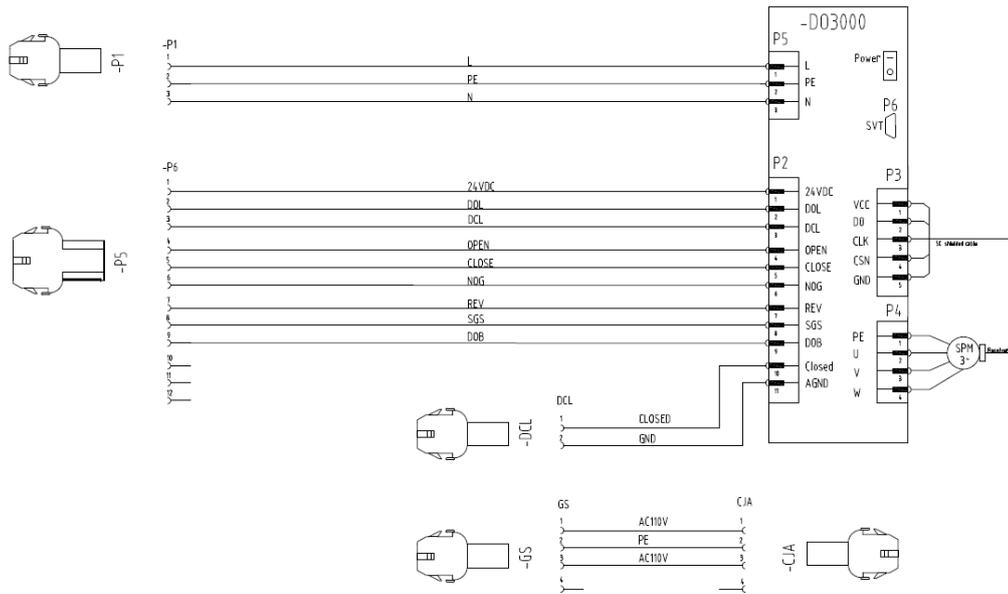

Fig.3-4 Wiring of HAA24360G3, HAA24360G8 controller components
3.1.3 Wiring of HAA24360G3, HAA24360G8 controller components (as shown in Fig.3-4)